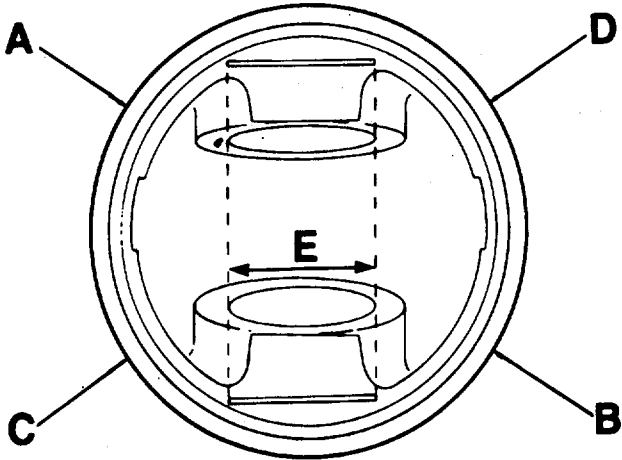
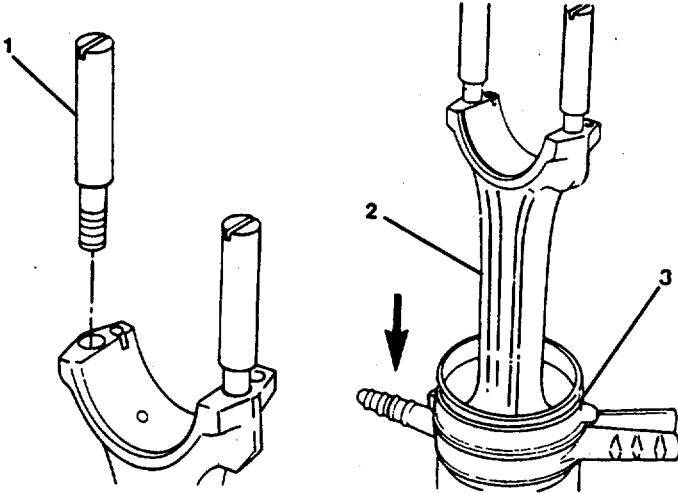

FIGURE 3-75. Positioning Ring Gaps.
FIGURE 3-76. Connecting Rod Guide Pins and Piston Ring Compressor.
- d. Position the ring gaps as shown in FIGURE 3-75.
- (1) (Top) Ring (A)
- (2) Second Ring (B)
- (3) Third Ring (C)
- (4) (Bottom) Oil Ring (D)
- (5) Piston Pin (E)
- e. Install the connecting rod guide pins (1, FIGURE 3-76) .
- i. Use the guide pins (1, FIGURE 3-76) to pull the connecting rod (2) against the crankshaft.
- j. Remove the guide pins (1).